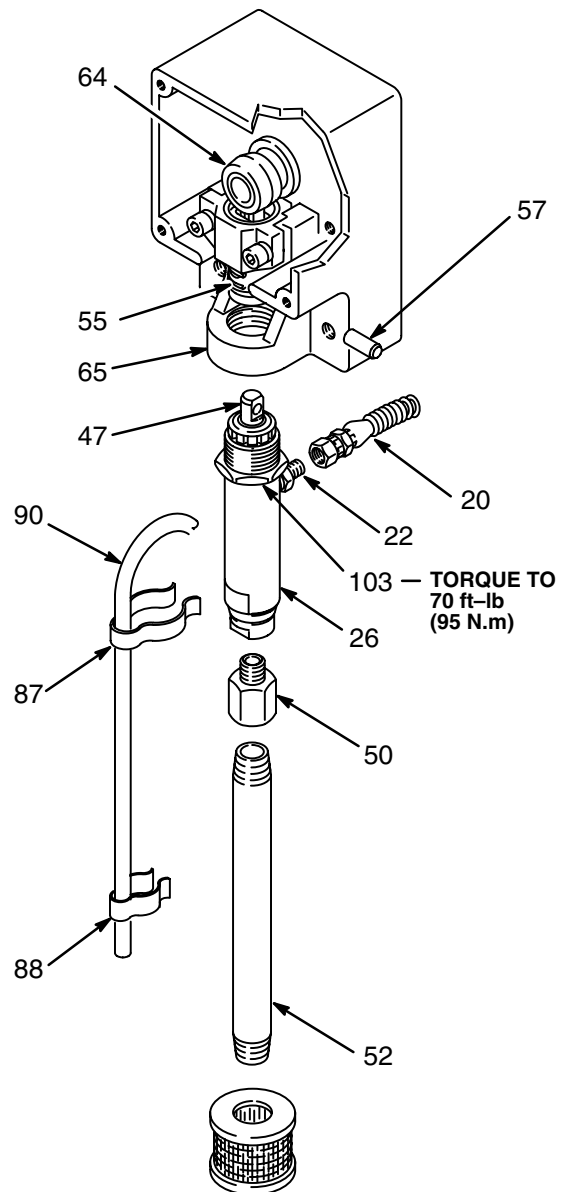

Fig 1
Remove the hose clamps (87, 88) and move the drain tube (90) away from the pump. Unscrew and remove the suction tube (52). Remove the adapter (50). See Fig 1.
Disconnect the hose (20) from the nipple (22). See Fig 1.